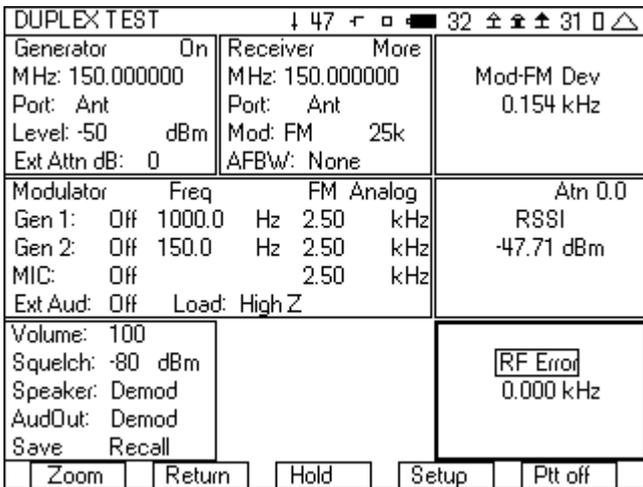

Figure 19 - Duplex test screen with RF Error meter
2. When the desired meter is selected, the first softkey should be named "Zoom". Press the first softkey. Figure 19 shows the cursor on RF Error with the first softkey labeled "Zoom".